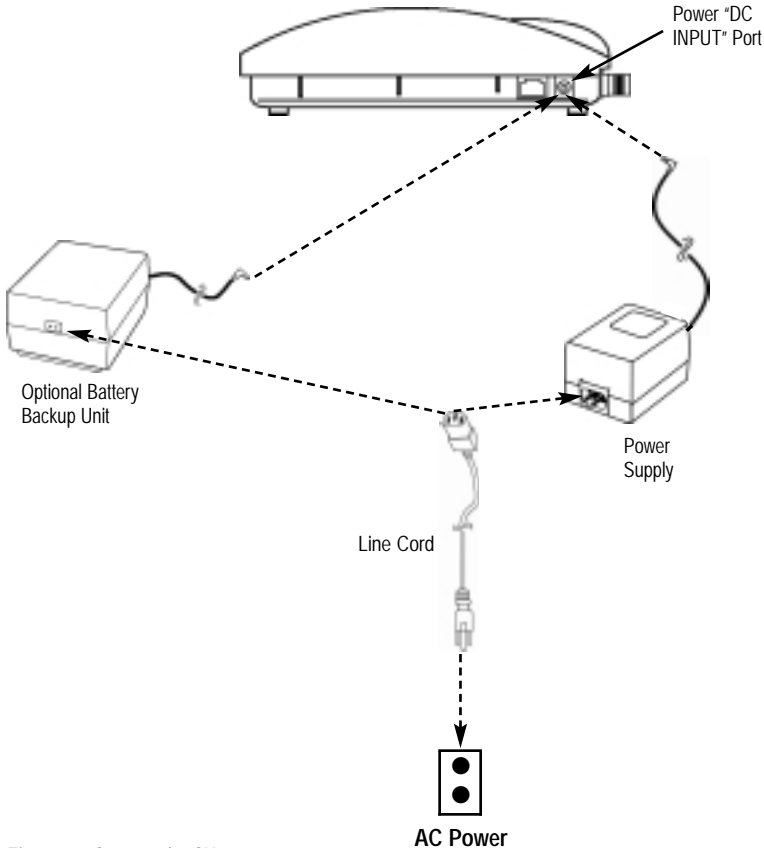

Figure 6 - Connect the SX4e to power.
**NOTE:** An optional battery back up unit (*not supplied*) may be used instead of the Power Supply - **see Figure 6**. Follow the battery installation instructions provided with the Backup Unit.